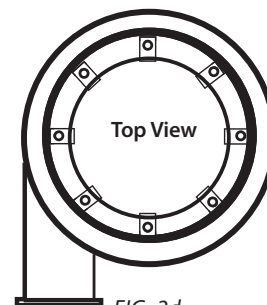

FIG. 2d
- Apply to the top of the Fan Housing (B) outside the bolt holes and not covering up the U-Spring Clips (K2) [FIG. 2d].